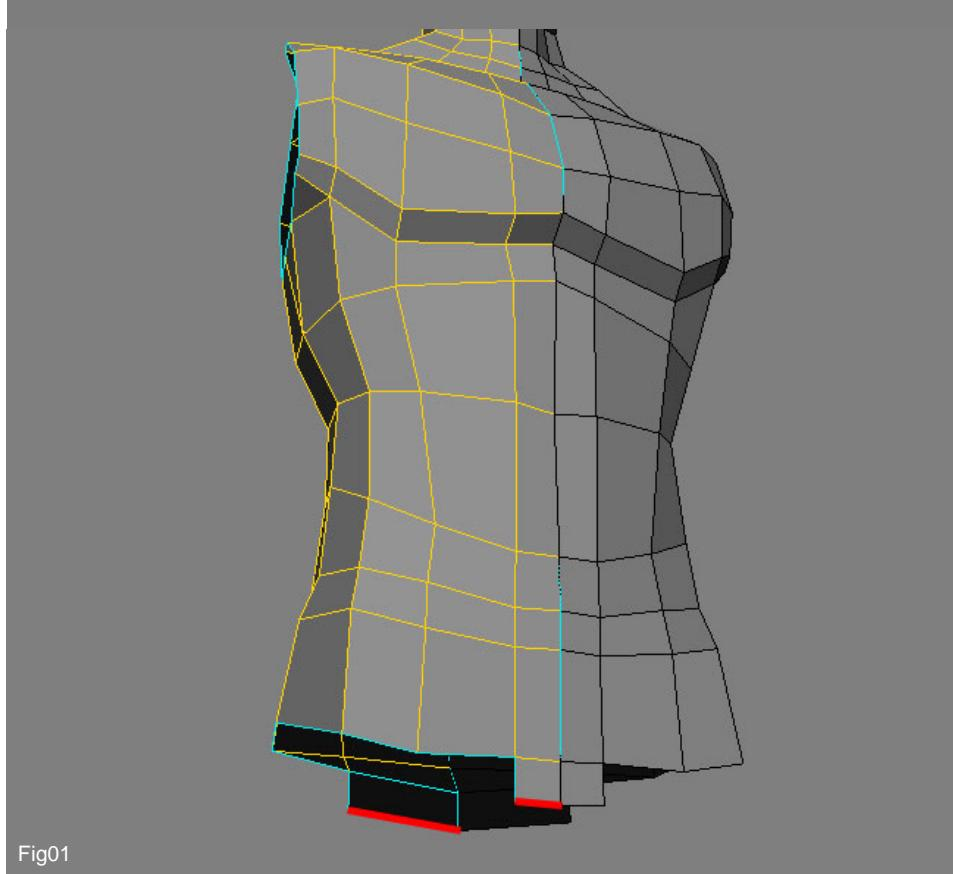

Fig01
1. Open the file with the torso mesh. Select the two edges marked in red in Fig 01, and use the **Ctrl + D** to duplicate/extrude them. Now move them downwards, as shown in Fig 01. Make sure that the torso mesh is still divided into two halves, one of which is still a clone of the other (so you can work only on one half of the mesh, seeing the result on both of the halves).